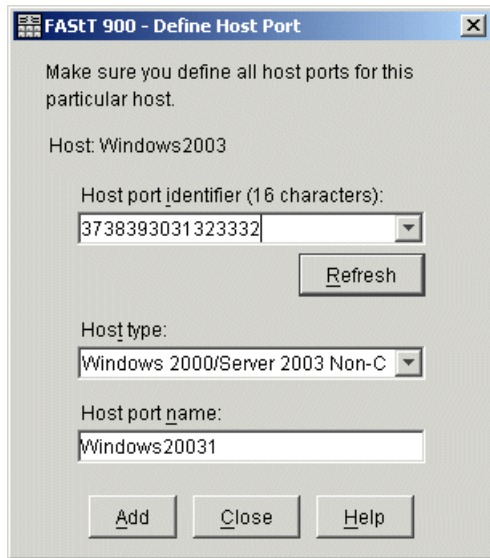

Figure 5-38 Enter the host port information
8. In the Define Host Port dialog (Figure 5-38 on page 155), enter the port name for this adapter and choose the correct operating system. The host port identifier corresponds to the world-wide name of the adapter port. In the drop-down box, you only see the world-wide names that are currently active. If you want to enter a host port that is not currently active, type the world-wide name in the field. Be sure to check for typing errors. The values should correspond to the example in Table 5-1 on page 141.